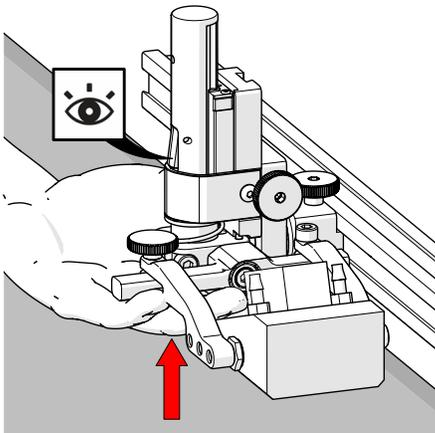
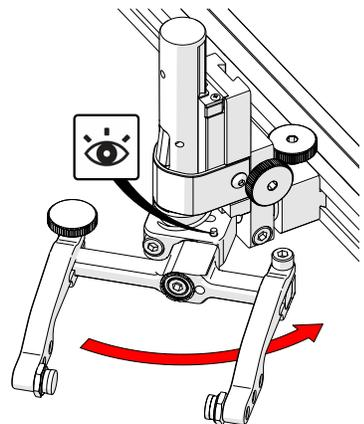

Fig. 129 - Latch probe holder
Fig. 135 - Stop post locates 90°
1. Ensure the probe holder is in the latched, upper position. Lift the probe holder until the latch is fully exposed and snaps out to lock (Fig. 129).
1. Ensure the probe holder is in latched, upper position (*Fig. 129*).
To return the transverse adjustment to neutral (90°). The probe holder must be in the latched, upper position (*Fig. 129*). Rotate the yoke until the stop post contacts the base of the probe holder (*Fig. 135*). Then tighten the transverse adjustment screw.
1. Ensure the probe holder is in latched, upper position (Fig. 129).